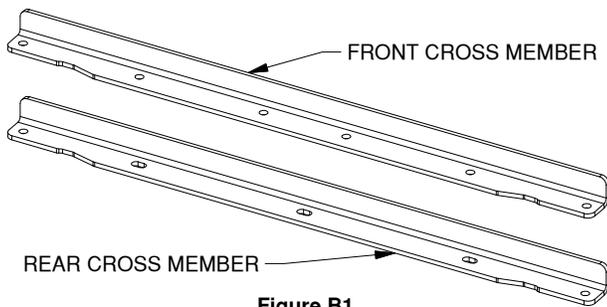
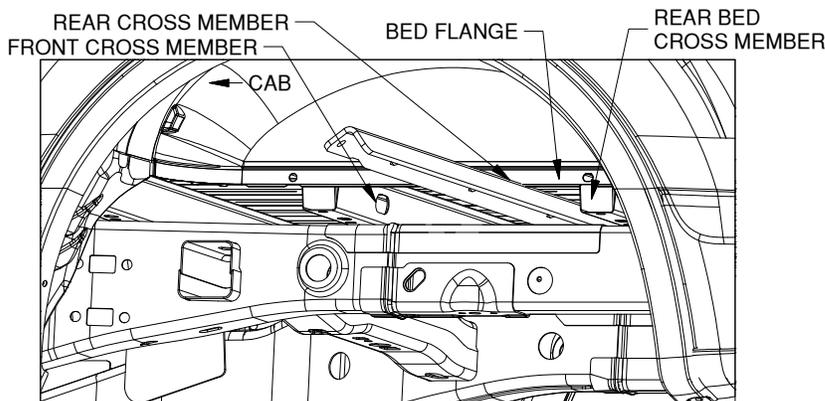

Figure B1
Figure B2: View looking into driver side wheel well.
- 1. Place the front and rear cross members.** Locate the front and rear cross members, see Figure B1. Place them in the gap between the bed and the frame directly above the axle, shown in Figure B2. Slide the cross members across the frame until they span both frame rails. Push the front cross member forward and the rear cross member back until they are against the bed braces. The flange of the front cross member with the holes must be toward the rear of the truck. The flange of the rear cross member with the holes must be toward the front of the truck.